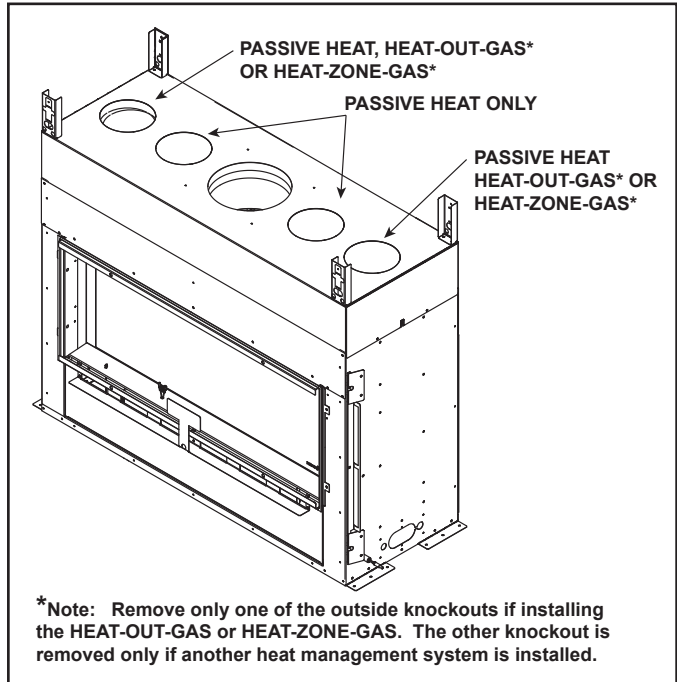

Figure 6.4
- Passive Heat (PH-FRT, PH-SIDE, PHFR-MCE, PHSI-MCE): May be used with HEAT-ZONE-GAS or one HEAT-OUT-GAS. The dedicated knockouts must be used only as indicated in Figure 6.4.